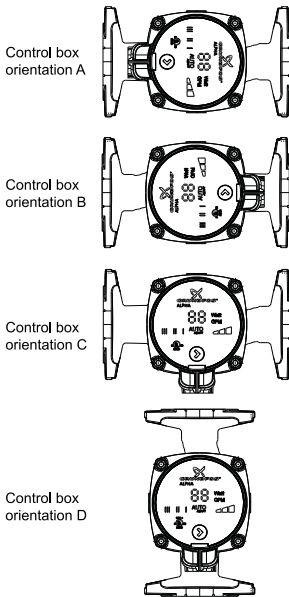

Fig. 3 Changing the control box position
Review fig. 3 for possible/permissible positions.
2. Loosen 4mm screws and turn the pump head to desired position; see fig. 3.